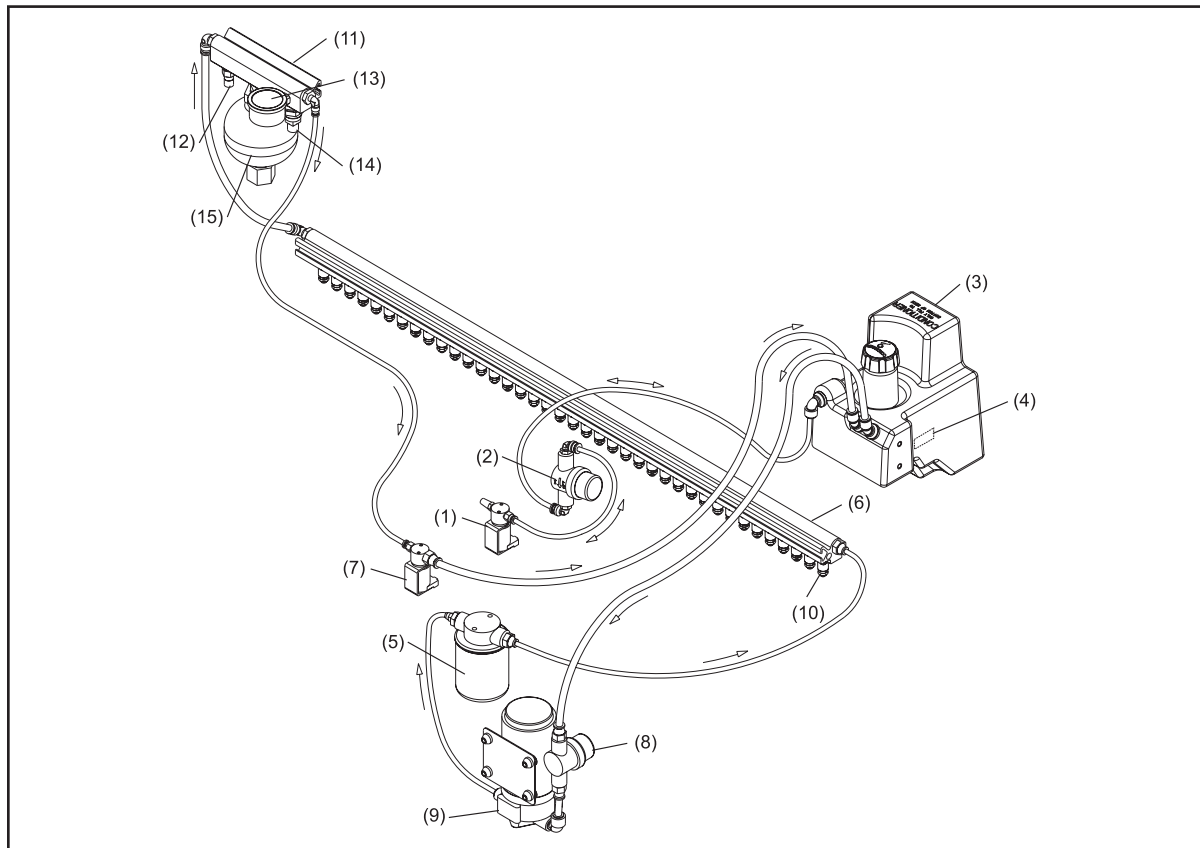

Figure 7-4. Conditioning System
1. The machine applies conditioner directly to the lane surface in a pattern specified by the user. Refer to Figure 7-4.